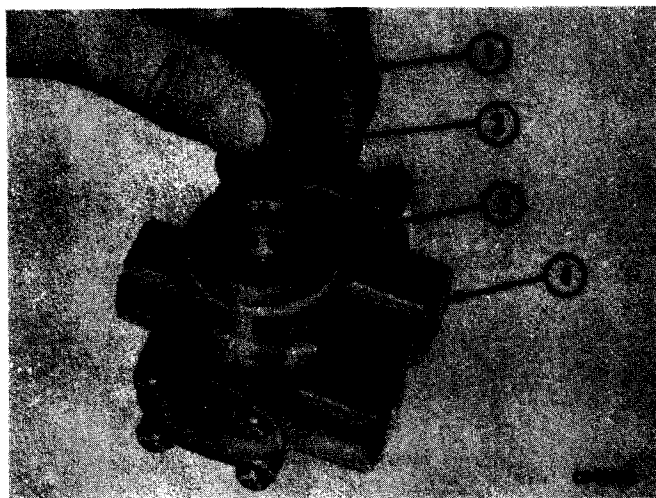

Figure 14-10
Remove flange seal (3, Fig. 14-10), plunger spring (1) and plunger (2) from body (4).
Position flange seal (3, Fig. 14-10), plunger (2) and plunger spring (1) in body (4).